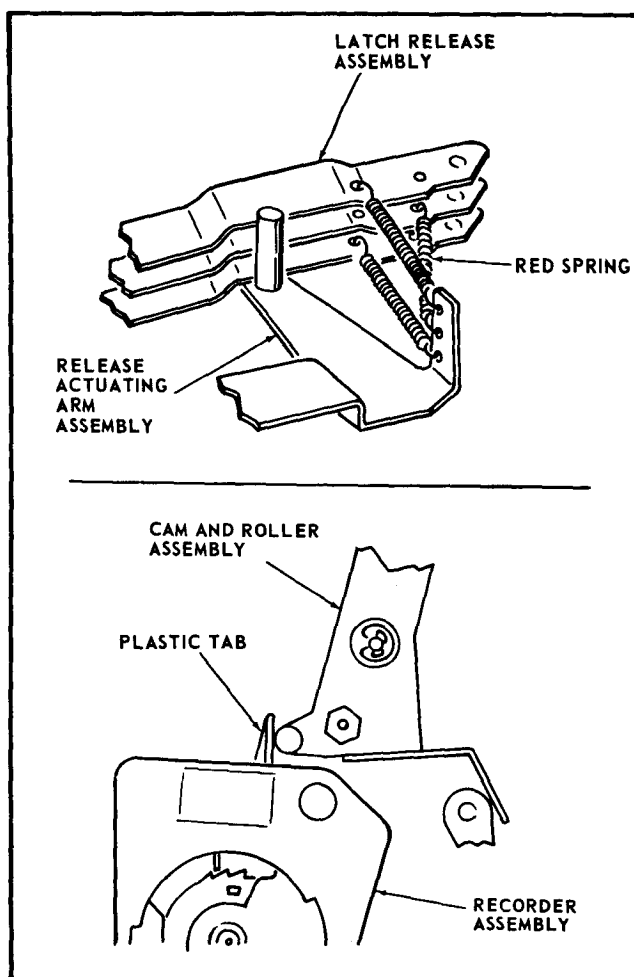

FIGURE 13
1. *Be sure the plastic tab which protrudes through the top of the Recorder Assembly is to the left side of the Ratchet Reset Cam and Roller Assembly and that the Ratchet Reset Cam and Roller Assembly can be easily actuated. See Figure 13.*
2. *Check the Springs at the end of the Release Assemblies: be sure each of the three Springs is attached to a different Release Arm Assembly and that each Spring is attached in the proper hole to the Release Actuating Arm Assembly. See Figure 13.*